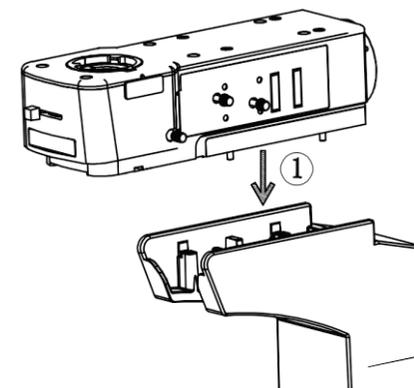

Fig.1
(1) Use a small arrow tool to counter the notch of the cap on the illuminator and take off the cap.
(2) Place the illuminator roughly along the matching fillet of the side into the mirror body, and then push it towards the direction of the light source to make the falling illuminator flush with the mirror body (As shown in Fig.1)
(3) Use M5 Allen wrench to lock the four M5 Allen screws in the illuminator, and then put the cap back in place.